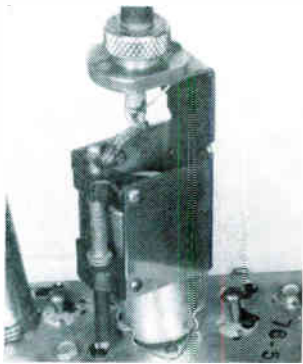

FIGURE 4
**IF Jig, Part No. 45-1670 (See Figures 4 and 5)**